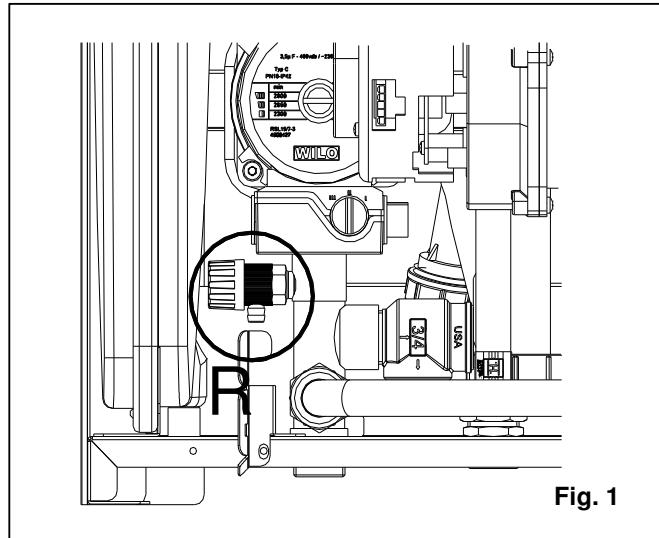

Fig. 1
- Open the system drain valve (fig. 1).
- **If only the water heater needs to be drained, close the flow/return isolating valves on the heating circuit and open the drain valve R located at the bottom of the water heater on the pump manifold (see fig. 1);**